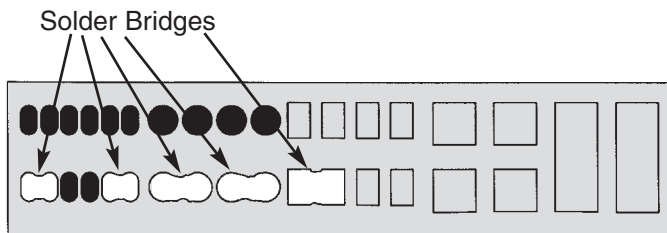

Figure 11
1. Make five solder bridges using the second row of single pads, starting from the left side (see Figure 11).